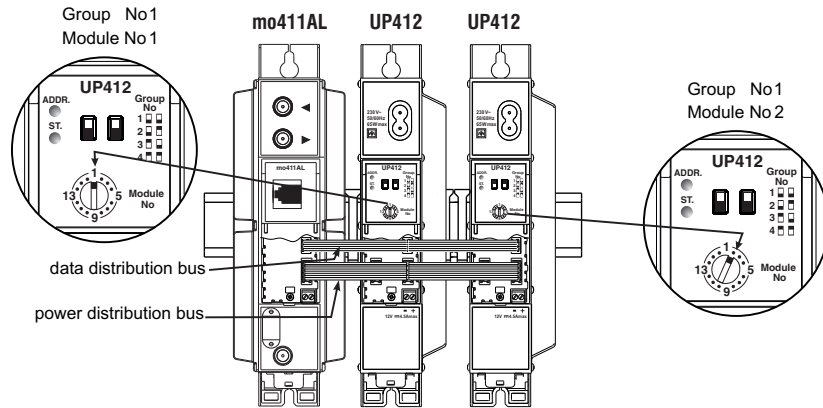

Figure 6. System with 2 PS units UP412 in parallel connection
- Connect in parallel PS units, intended to work in parallel only: UP412+UP412, UP412+UP413, UP413+UP413 (see figure 6).